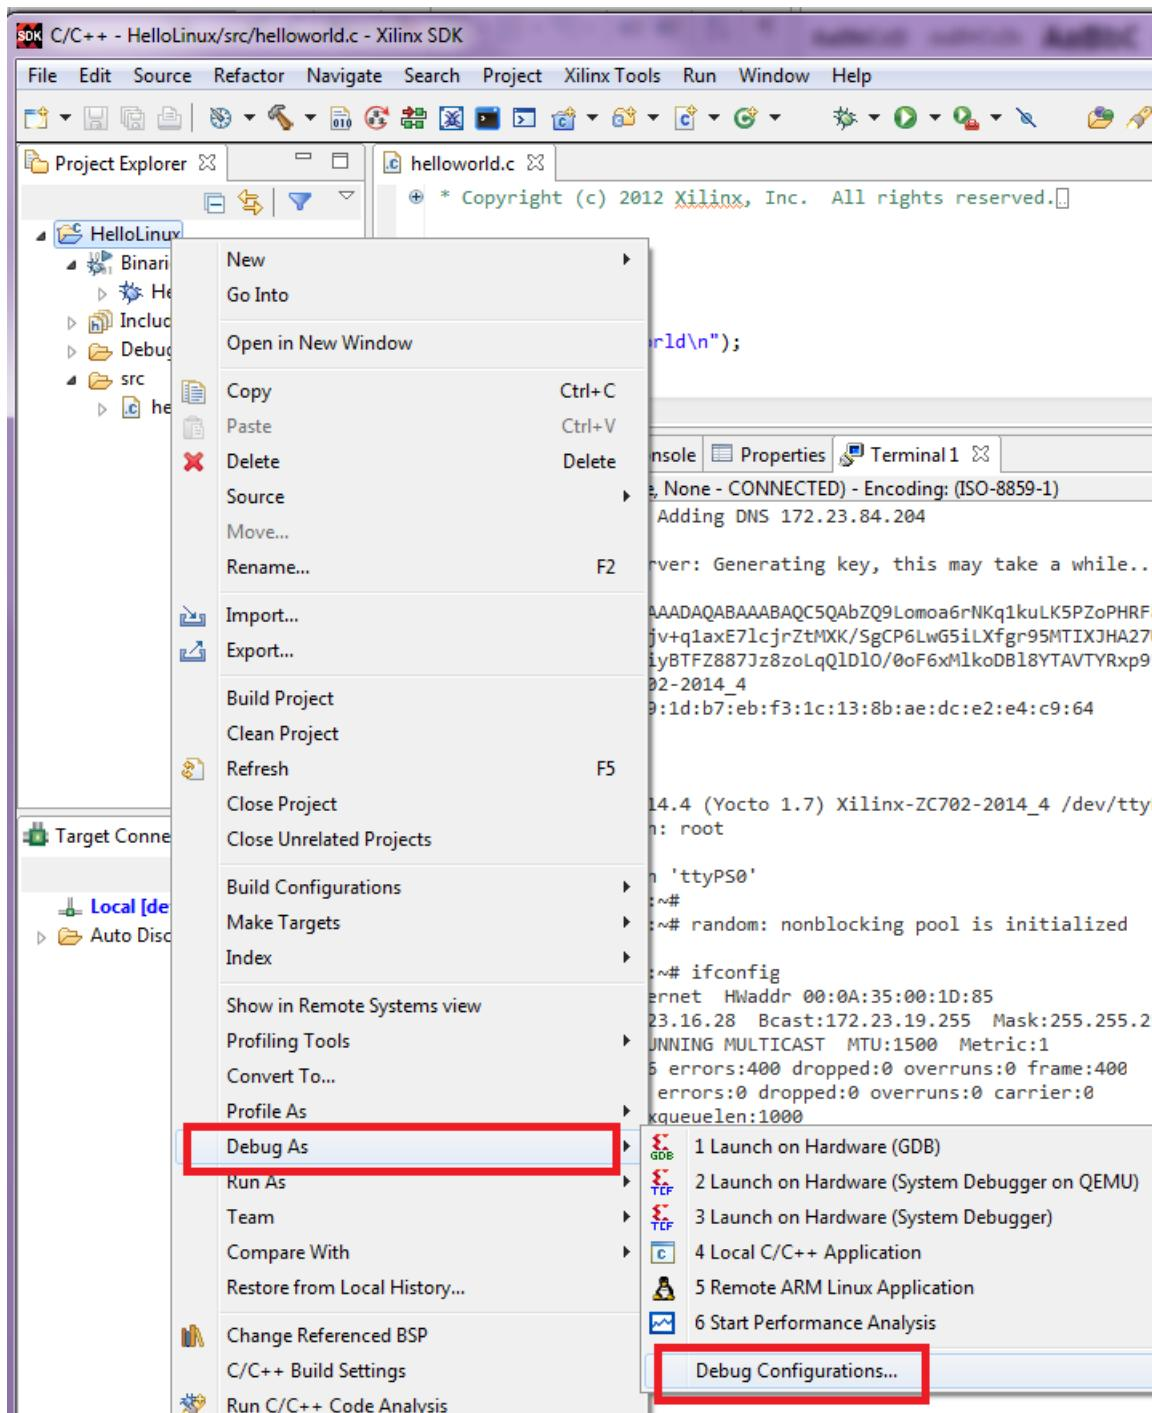

Figure 6-6: Debug Configuration Creation
5. Right-click **HelloLinux** and select **Debug as > Debug Configurations**, as shown in Figure 6-6. The Debug Configuration wizard opens.